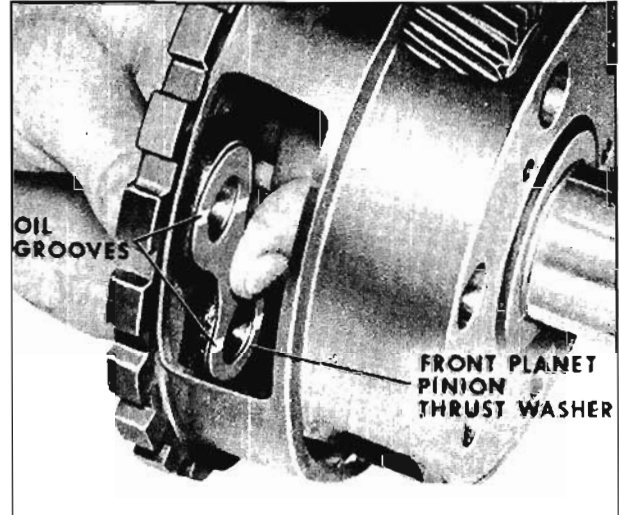

Fig. 6-395 Installing Front Thrust Washer
3. Install front planet pinion thrust washer. Retain thrust washer to case with grease. Oil grooves on the thrust washer must be toward the pinion gears. (Fig. 6-395)